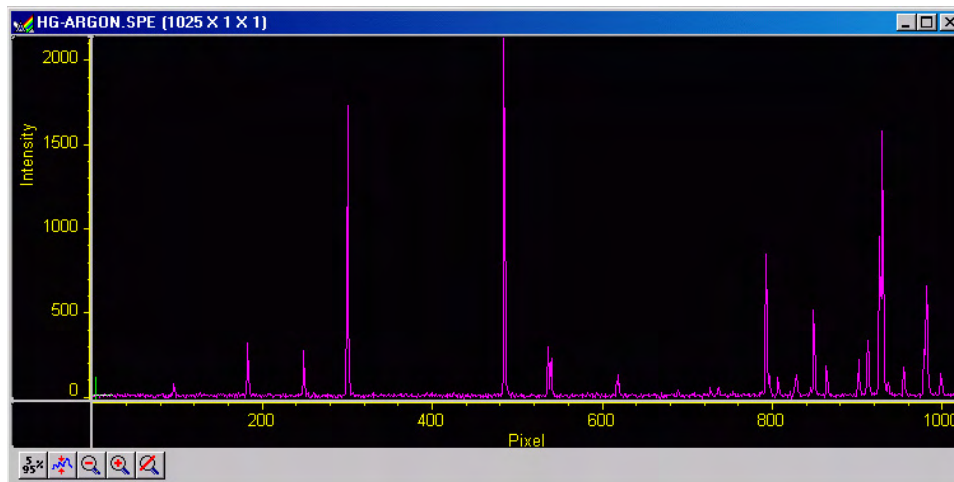

Figure 45. Typical Mercury-Argon Spectrum
The following data collection procedure works for all controllers. An underlying assumption is that a suitable light source is available. Although fluorescent room lighting may be adequate, it will probably prove more instructive to use a standard lamp, such as a mercury-argon lamp that provided the spectrum illustrated in Figure 45.
3. While observing the displayed data, adjust the system optics for the best possible spectrum (lines as high and narrow as possible). Figure 45 shows a typical mercury-argon spectrum. Your results could appear different depending on the spectrograph grating used.